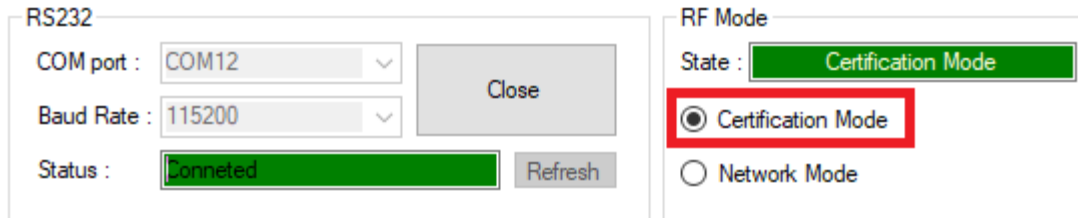

Figure 7: Certification Mode Configuration
- 1. Open the **Settings** tab. See Figure 7.